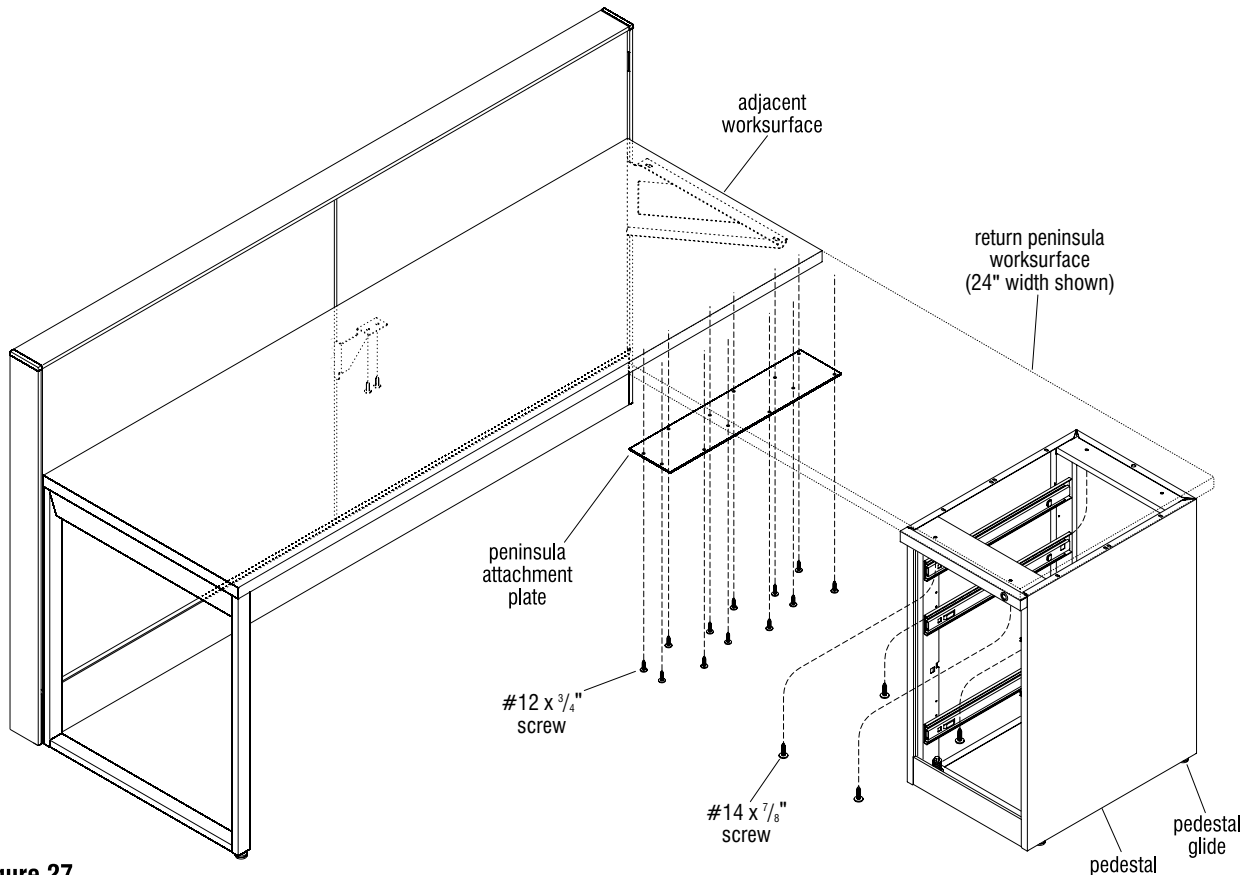

Figure 27
1. Place a peninsula attachment plate under the adjacent worksurface. Center the plate from side-to-side and position the overhang of the plate allowing 2 1/2" for attachment of the peninsula worksurface (Figure 27). Using a pen and the properly positioned attachment plate as a template, mark the center of all attachment hole locations to the underside of the adjacent surface. Remove the plate, and using a drill with 1/8" diameter drill bit, carefully pre-drill mounting holes to only
1/2" depth in underside of adjacent worksurface. Take care to not drill too deep (Figure 27).
2. Replace the attachment plate over the pre-drilled holes and secure plate to underside of adjacent worksurface using #12 x 3/4" screws. Take care to not over-tighten screws (Figure 27).
onto pedestal and peninsula attachment plate. Adjust glides on pedestal to level the worksurface and center the worksurface on attachment plate making sure worksurface edges are tight. Take care to not drop or damage the worksurface. Using the attachment plate as a template, pre-drill 1/8" diameter mounting holes to only 1/2" depth in underside of peninsula surface. Take care to not drill too deep (Figure 27).
4. Secure splice plate to peninsula worksurface using #12 x 3/4" screws. Take care not to over-tighten screws (Figure 27).
5. To attach pedestal to underside of worksurface, first align pre-drilled holes of worksurface with mounting holes of pedestal. Check that the front and side of the pedestal is flush with the edges of the worksurface and secure using four #14 x 7/8" screws as illustrated (Figure 27).